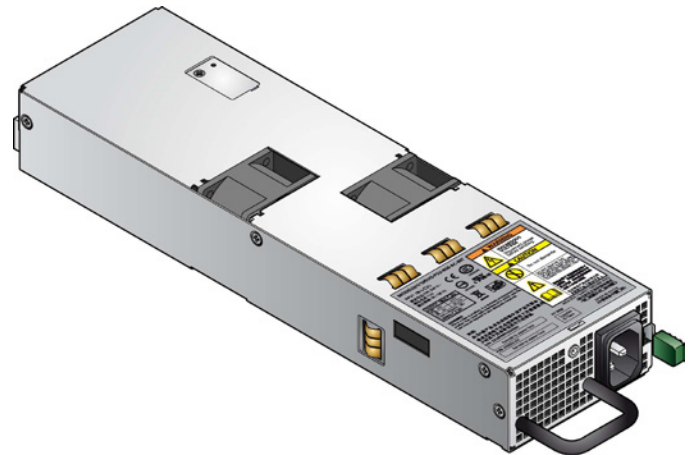

Fig. 12 - Power Supply Unit
- A power supply mounting cage containing two 850W, 100-240V AC auto-ranging, plug-in Power Supply Units (see *Fig. 12*).
PSU voltage operating ranges are nominally 100V to 240V AC, selected automatically. A typical PSU is shown in Fig. 12.